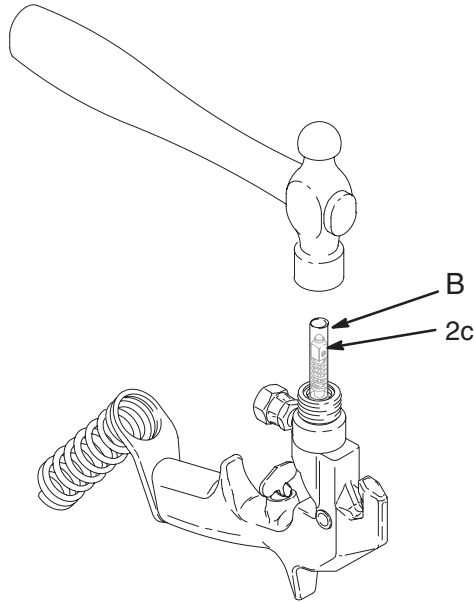

Fig. 7
- Slide the rear of the needle (2c\*) into the front of the gun. Slide the tool (B), provided with the repair kit, into the gun around the needle. Lightly tap the tool with a hammer, or lightly press the tool on a flat surface to seat the needle. See Fig. 7. Remove the tool.